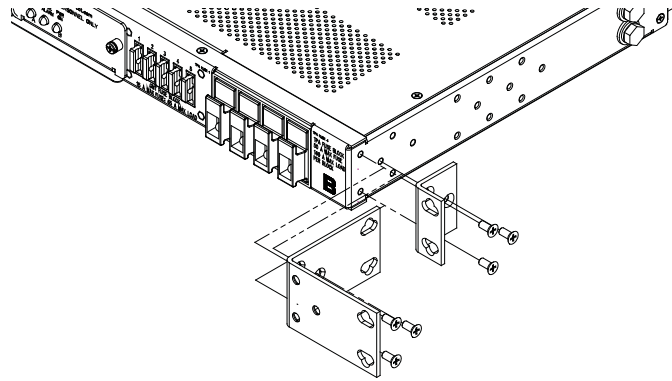

Figure 2 - Bracket Orientation
1. If necessary, remove three screws and reposition/re-align the brackets on the sides of the distribution panel, as shown in Figure 2.